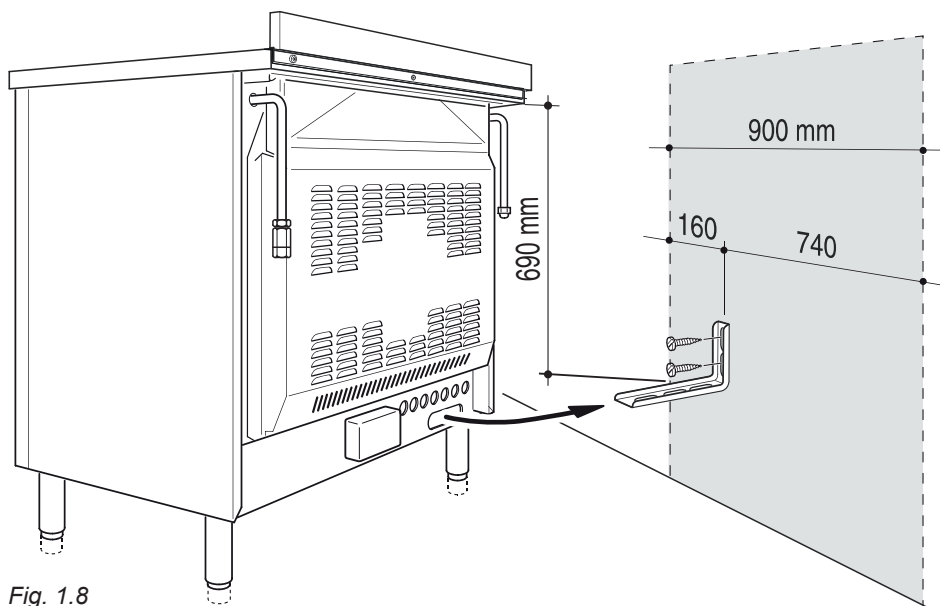

Fig. 1.8
1. After you have located where the cooker is to be positioned, mark on the wall the place where the two screws of the anti-tilt bracket have to be fitted. Please follow the indications given in fig. 1.8.
4. Move the cooker to the wall and adjust the height of the anti-tilt bracket so that it can engage in the slot on the cooker's back, as shown in fig. 1.8.